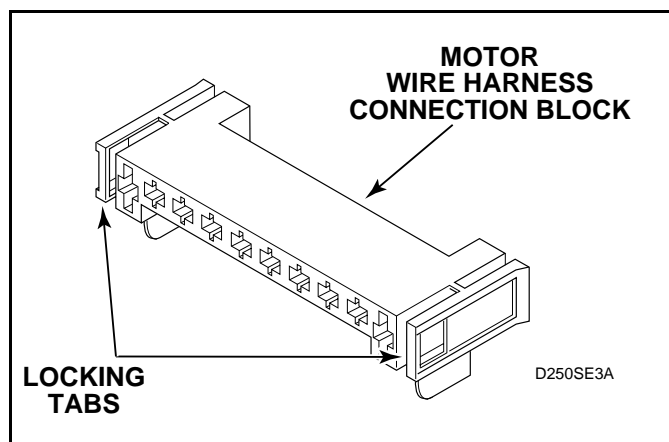

Figure 44
- Disengage motor wire harness terminal block from motor switch by pressing in on the movable locking tabs (located on each end of the terminal block) and pulling away from motor. See *Figures 44 and 45*.
- (1) Disengage motor wire harness terminal block from the motor by pressing in on the movable locking tabs (located on each side of the terminal block) and pulling away from motor. See *Figure 44*.